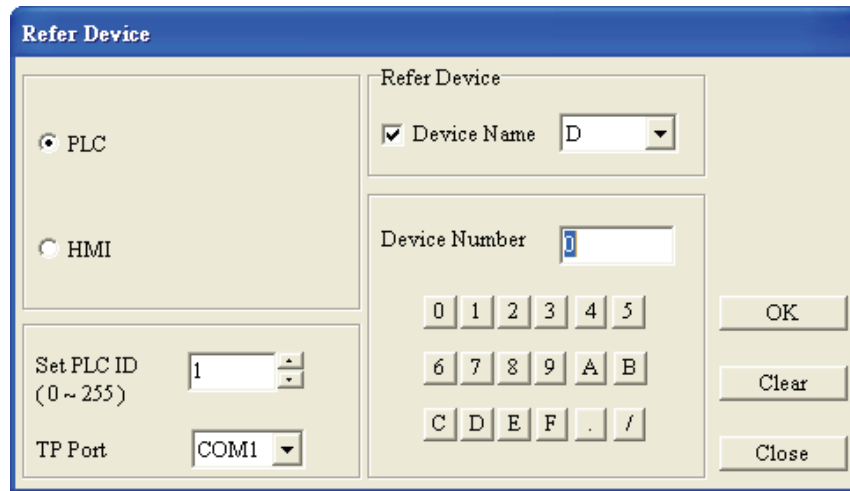

Figure 1-64
Step 2. After entering the device name and clicking , the Refer Device tab like Figure1-64 will open.